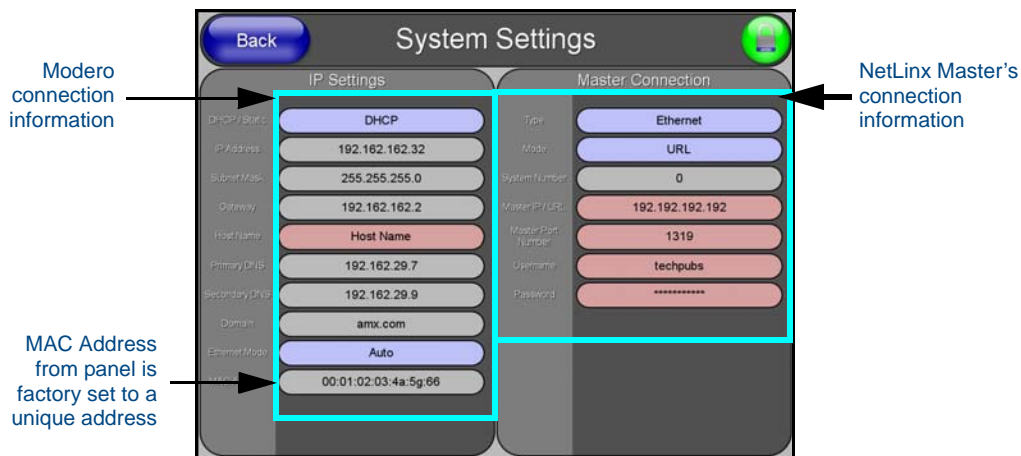

FIG. 52 System Settings page
11. Press the **System Settings** button (located on the Protected Setup page) to open the System Settings page (FIG. 52) and begin configuring the communication settings on the panel to match those of the target Master.